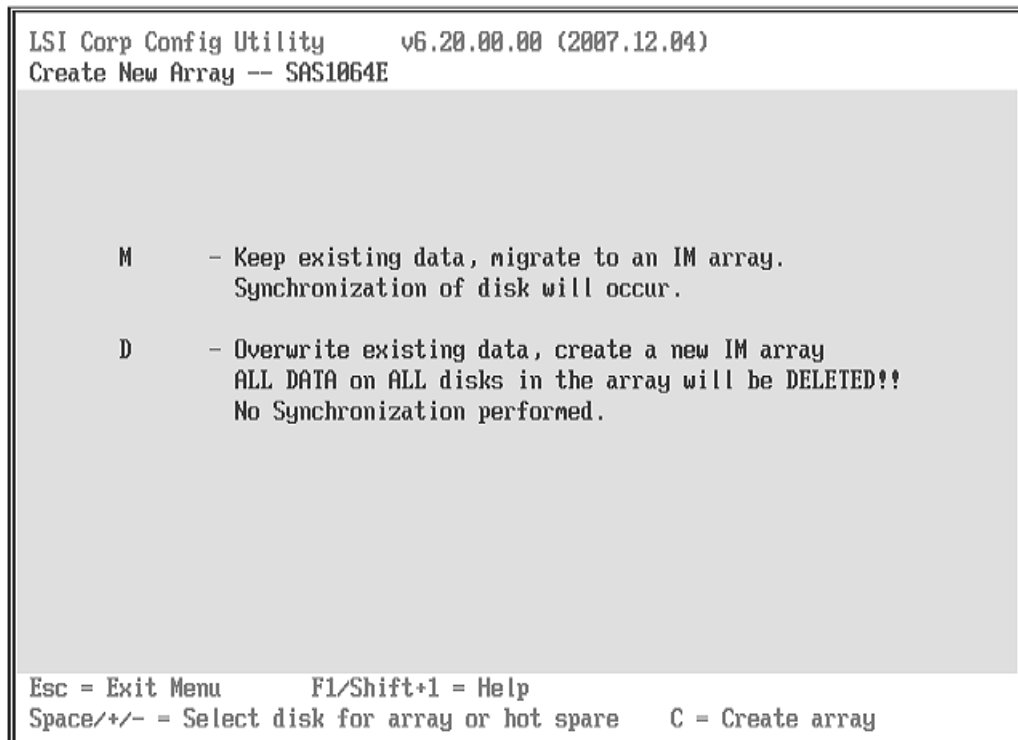

Figure 2-24 Keep or discard the existing data
7. Make the appropriate selection in the window shown in Figure 2-24.
8. Confirm your selection by pressing the C button to create the new array, as shown in Figure 2-24 on page 43.